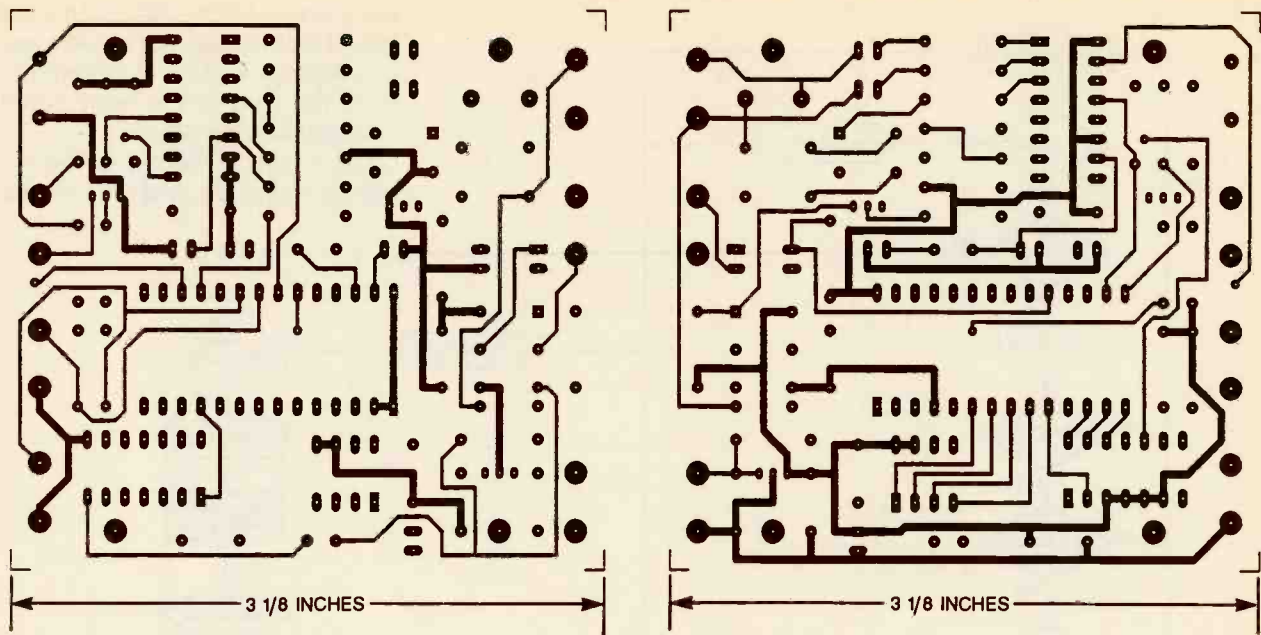

Fig. 4. The Caller Block is assembled on a double-sided PC board. Both sides of the board are shown here full size.
**Construction.** The whole circuit, except for the switches and LED, fits nicely on a double-sided printed circuit board. The artwork is provided in Fig. 4 for those who wish to etch their own board, or you may purchase a pre-etched and drilled PCB from the source mentioned in the Parts List. Once you have obtained your board, identify the component side of the PCB board (which is marked), then refer to the parts-placement diagram shown in Fig. 5 to begin construction.